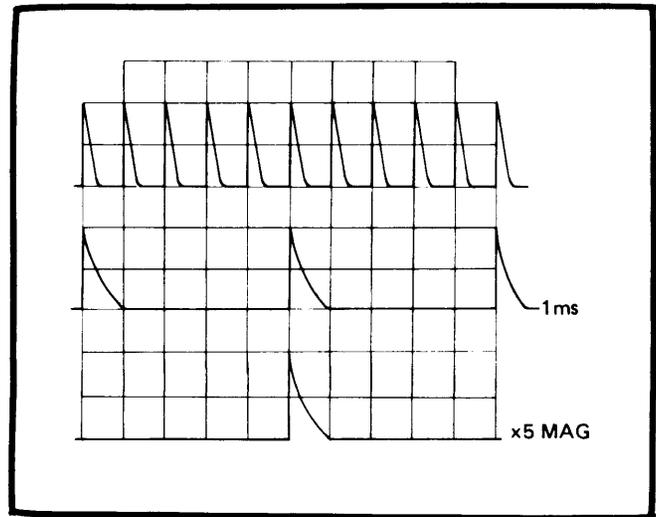

Fig. 25. X5 MAG Centering and Gain Adjustment.
1. Set SWEEP TIME/DIV control to 0.2 ms and apply 1 ms marker signal to CH A to display three pulses on screen (Fig. 25).
2. Set horizontal POSITION control at mechanical center. Be sure to use the mechanical center of rotation. If necessary, loosen knob set screw and reposition knob pointer to top (12 o'clock) before adjustment. Adjust VR13 (Model 1474 and 1479) or VR16 (Model 1479A and 1479B) to center pulses on screen (Fig. 25).
1. Set SWEEP TIME/DIV control to 1 ms and apply 1 ms marker signal to CH A input. Markers will be 1 division apart (Fig. 25).
2. Pull out the PULL 5X MAG knob and adjust VR14 (Model 1474 and 1479) or VR18 (Model 1479A and 1479B) so there are 5 divisions between marks (Fig 25).
3. With 1 ms markers still applied, set sweep time to 0.2 ms/div. Without 5X MAG there should be three markers displayed (Fig. 25). Set horizontal POSITION control so center marker is in center of screen.